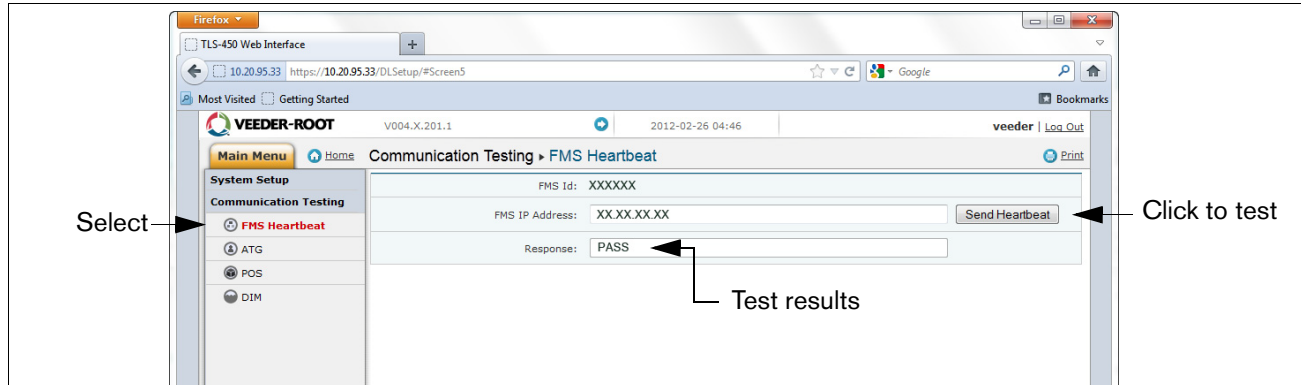

Figure 28. FMS Heartbeat Screen
22. The DL4 should now be configured to collect inventory and transactional data, which will be periodically retrieved by FMS. To verify connectivity with FMS, reconnect the DL4 to the network or cell modem. Go to the “DLSetup” application’s Communication Testing screen, click on “FMS Heartbeat”, then click on the “Send Heartbeat” button (see Figure 28). Wait for the “Response” text to indicate PASS or FAIL. A PASS confirms that the DL4 is successfully communicating with FMS. A FAIL indicates that the connection has failed and you will need to contact FMS or the network administrator for troubleshooting assistance.